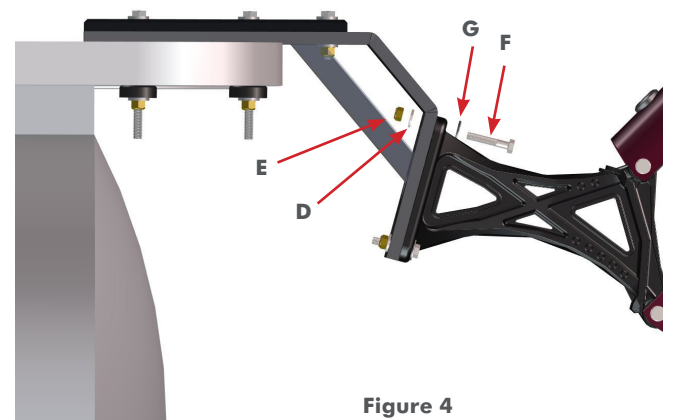

Figure 4
3.2 Insert bolts (**F**) through the Power-Pole stern bracket, adapter plate (**A**), heavy thunder washer (**D**) and lock nuts (**E**). Tighten the lock nuts to 240 inch pounds / 20 foot pounds of torque **FIG. 4**